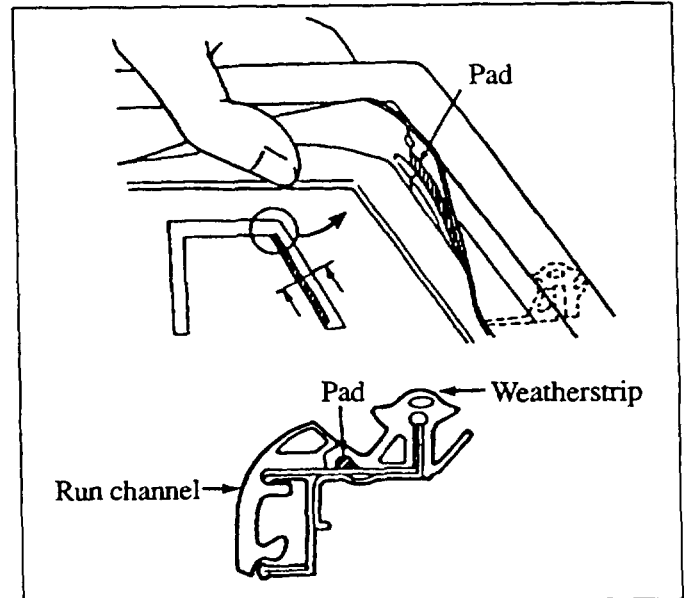

Figure 16: Top of rear door
3. Fold up the glass weatherstrip and install a pad as indicated by the circle in Figure 16.